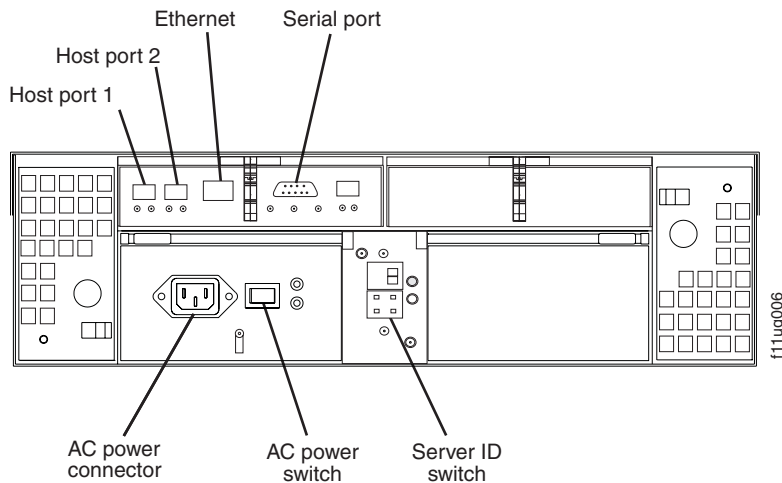

Figure 51. Location of host cables (single-controller storage server)
2. Connect the host-system cables to the RAID controller or to switches. Figure 51 shows the location on the RAID controllers where the host-system cables connect.